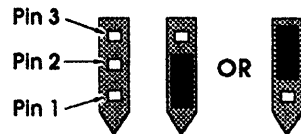

Figure 5.8 – Correct 3-pin jumper installations.
**NOTE:** All jumpers have polarity which is indicated either by a pointed end on the jumper pin mount, itself, or in white ink on the surface of the circuit board. On both two and three pin jumpers, Pin One is the pin closest to the pointed end (see Figure 5.8).